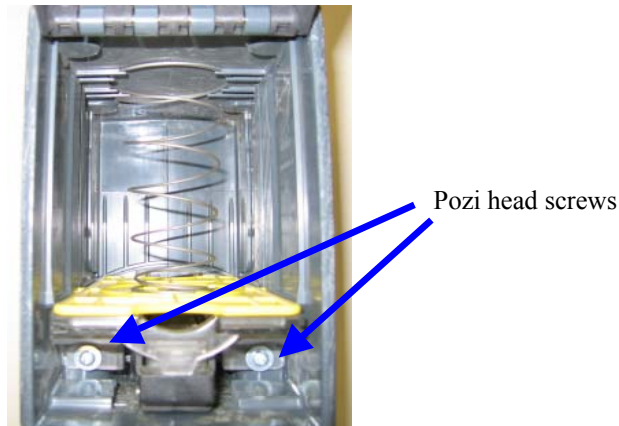

Fig.1
- Remove the Two Pozi head screws (size P-Z2) that hold the stacker base assembly in place, See fig. 1.
**NOTE:** Before reinstalling the two screws that secure the stacker assembly inside the cashbox, (see fig.1) it is recommended to back the screws counter clockwise a quarter turn so that the screws will find their original thread pattern so that no stripping of the plastic occurs. Make sure the screws are tightened securely in place.